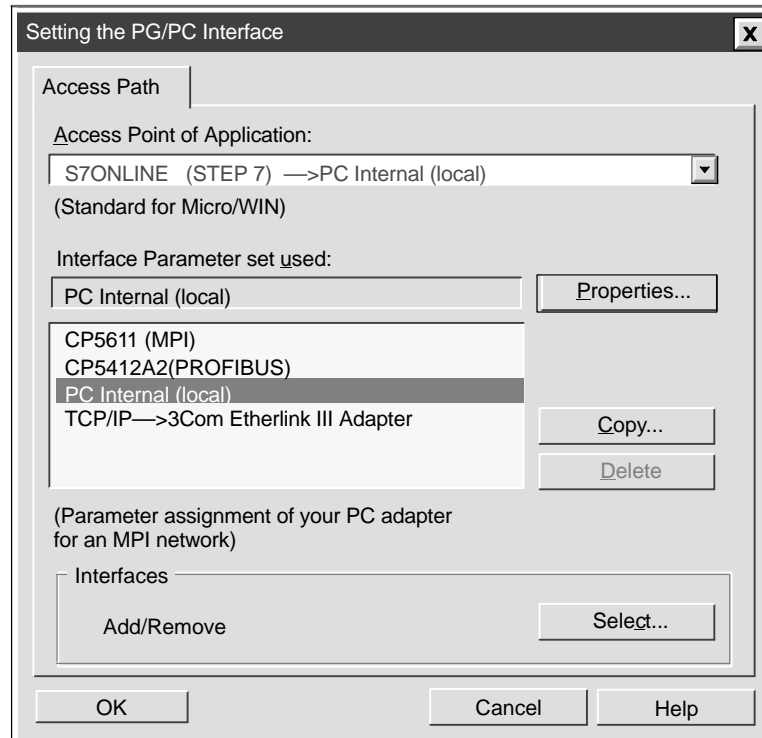

Figure D-5 Setting the PG/PC Interface for PC Internal (local)
2. From the “Access point of application” drop-down list, select **S7ONLINE (STEP 7)** (Figure D-5).